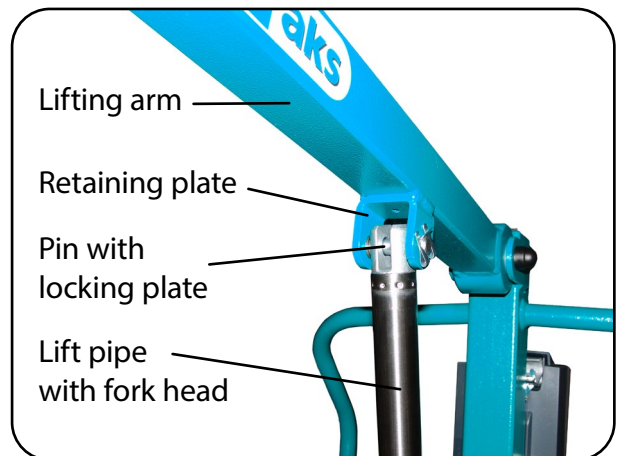

Fig. 6.2.06 – Assembly of the lift drive
7. Remove the bolt with the locking plate from the retaining plate on the lifting arm (Fig. 6.2.06).
8. Raise the lifting arm and fully align the hole of the lift pipe (fork head) with the hole of the retaining plate. Fasten the lift drive to the retaining plate of the lifting arm by inserting the pin (Fig. 6.2.06).
9. Secure the pin with the locking plate (Fig. 6.2.06). To do so, push the locking plate into the groove at the end of the pin. In doing so, the curved end of the plate slides over the chamfer of the pin.